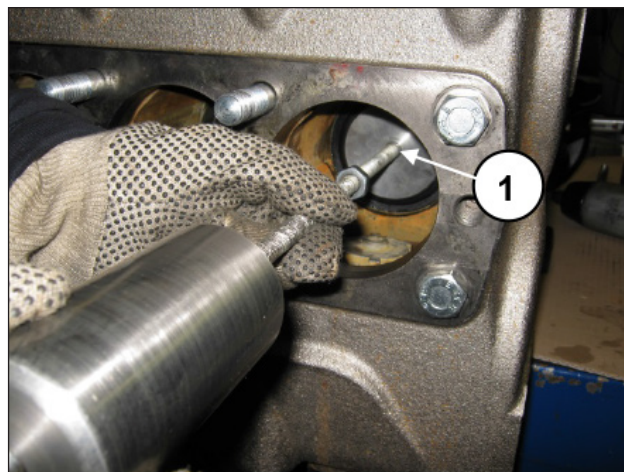

Fig. 127
If necessary it is possible to use the M10 hole to extract the fastening bush seal with an extractor hammer (pos. ①, Fig. 127).